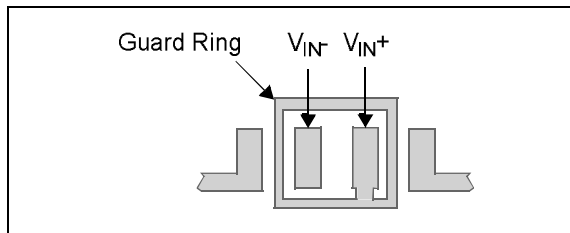

FIGURE 4-4: Example Guard Ring Layout.
The easiest way to reduce surface leakage is to use a guard ring around sensitive pins (or traces). The guard ring is biased at the same voltage as the sensitive pin. Figure 4-4 shows an example of this type of layout.
1. Inverting Amplifiers (Figure 4-4) and Trans-impedance Gain Amplifiers (convert current to voltage, such as photo detectors).